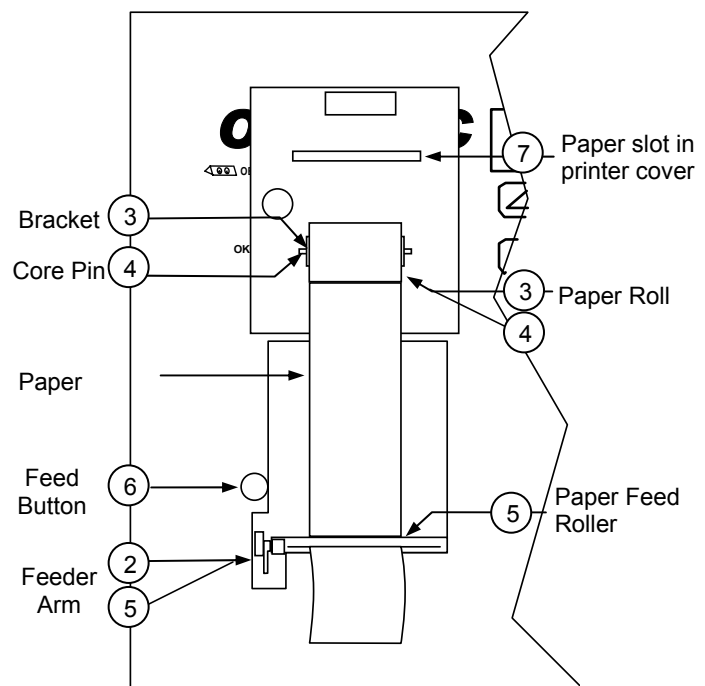

Fig. A-2: Print Cover Open (Front View)
2. Lift feeder arm (see Figure A-2).